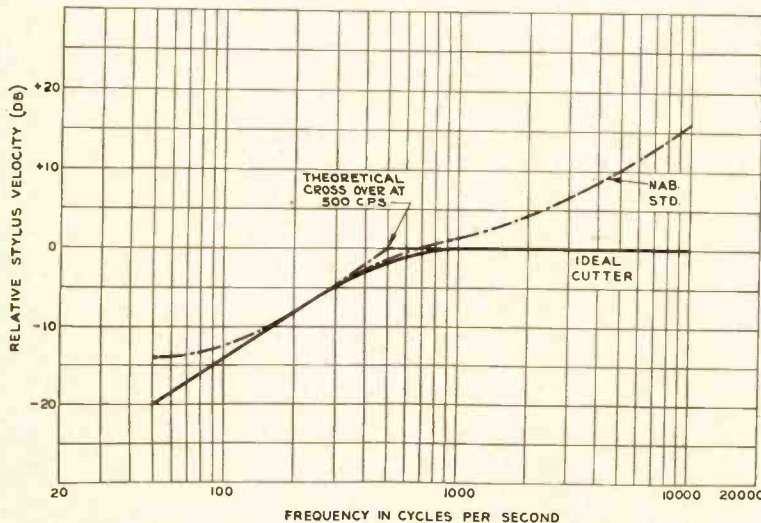

Fig. 1. NAB standard lateral recording characteristic and ideal cutter having a crossover point at 500 cps.
**T**HE FREQUENCY-RESPONSE characteristic standardized upon by the National Association of Broadcasters for lateral disc recording is based upon a cutter characteristic having a transition frequency of 500 cps. The NAB standard curve, *Fig. 1*, includes high-frequency tip-up having the characteristic shape of a resistance capacitance network of such proportions that the time constant  $T = RC$  is equal to 100 microseconds ( $R$  expressed in ohms;  $C$ , in farads). Some additional low-frequency boost, below 100 cps, is also included, as illustrated by the flatness of the curve between 100 and 50 cps. If
we subtract the 100- $\mu$  sec tip-up curve from the standard and extend the low-frequency response on a 6 db per octave slope, we then have the characteristic of the ideal cutter, *Fig. 1*. Extensions of the constant-velocity and constant-amplitude portions of the curves intersect at 500 cps, which is designated as the crossover point.